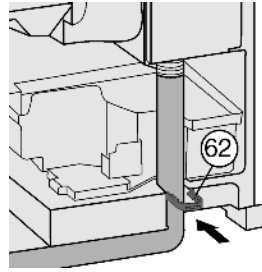

Fig. 11*
- ▶ Fit the locking clip *Fig. 11 (62)*.*